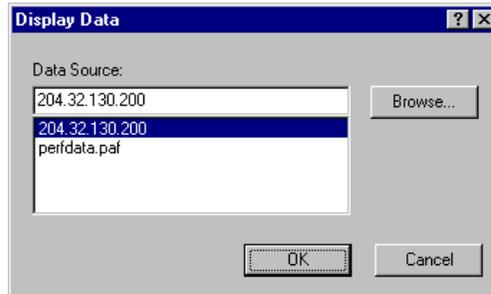

Figure 5-36. Display Data
1. Click Display Data. A display Data dialog box opens (Figure 5-36).